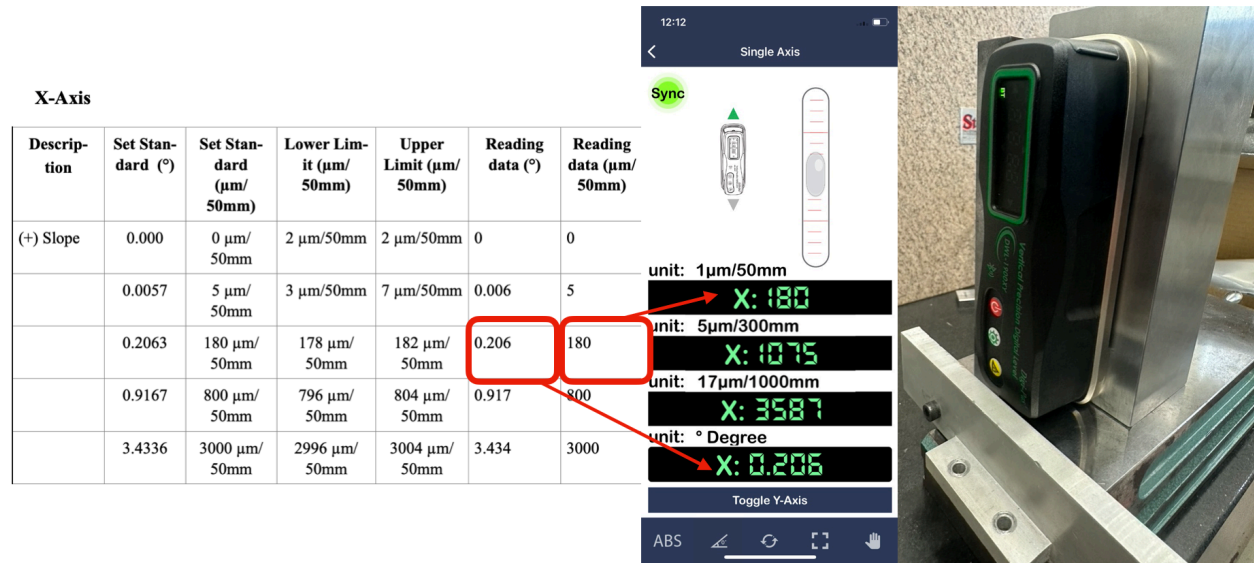

Figure 2.7.1
7. Once selected, This screen will be displayed. In this screen, the Degree and the ( $\mu\text{m}/50\text{mm}$ ) must be the same as the stated value in Appendix B. When App degree is set to the set standard degree, compare the with the value in the app and fill the reading data column. As shown on Figure 2.7.1, The placement of device should be flushed parallel to the side and the end of the sine bar.